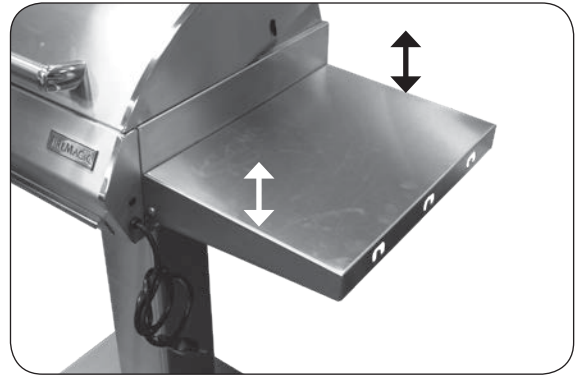

Fig. 17-1 Shelf up and locked
1. To lower the shelf, grab the middle of the shelf on both sides and lift upward (see Fig. 17-1). Then allow the end of the shelf to rotate down as pictured in Fig. 17-2 and Fig. 17-3.